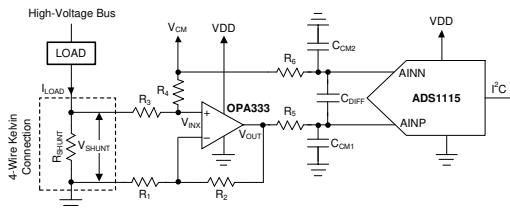

Figure 9-6. Low-Side Current Shunt Monitoring
Shunt-based, current-measurement solutions are widely used to monitor load currents. Low-side, current-shunt measurements are independent of the bus voltage because the shunt common-mode voltage is near ground. **Figure 9-6** shows an example circuit for a bidirectional, low-side, current-shunt measurement system. The load current is determined by measuring the voltage across the shunt resistor that is amplified and level-shifted by a low-drift operational amplifier, **OPA333**. The OPA333 output voltage is digitized with **ADS1115** and sent to the microcontroller using the I²C interface. This circuit is capable of measuring bidirectional currents flowing through the shunt resistor with great accuracy and precision.
1. To level-shift the ground-referenced signal to allow bidirectional current measurements while running off a unipolar supply. The voltage across the shunt resistor, V_{SHUNT}, is level-shifted by a common-mode voltage, V_{CM}, as shown in **Figure 9-6**. The level-shifted voltage, V_{INX}, at the noninverting input, is given by **Equation 5**.
A shunt resistor (R_{SHUNT}) is an accurate resistance inserted in series with the load as shown in Figure 9-6. If the absolute voltage drop across the shunt, $|V_{SHUNT}|$, is a larger percentage of the bus voltage, the voltage drop can reduce the overall efficiency and system performance. If $|V_{SHUNT}|$ is too low, measuring the small voltage drop requires careful design attention and proper selection of the ADC, operation amplifier, and precision resistors. Make sure that the absolute voltage at the shunt terminals does not result in violation of the input common-mode voltage range requirements of the operational amplifier. The power dissipation on the shunt resistor increases the temperature because of the current flowing through the resistor. To minimize the measurement errors resulting from variation in temperature, select a low-drift shunt resistor. To minimize the measurement gain error, select a shunt resistor with low tolerance value. To remove the errors caused by stray ground resistance, use a four-wire Kelvin-connected shunt resistor, as shown in Figure 9-6.